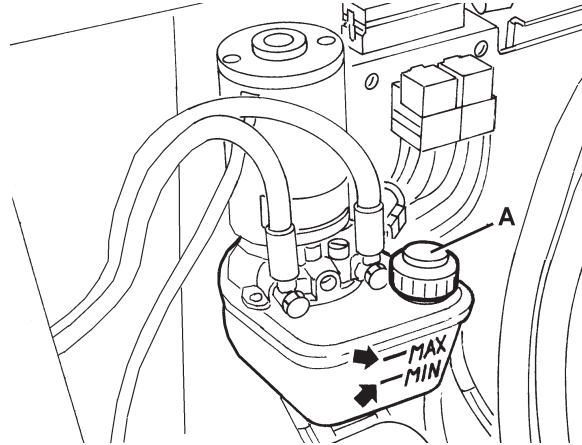

Figure 25
1. Engage the parking brake with the pedal (75) and the lever (68).
2. Turn the ignition key (67) to "0".
3. Open the hood (22) and fasten it with the support rod (36).
4. Check that the oil level in the tank (35) is between the minimum (MIN) and maximum (MAX) marks shown in Fig. 25.
5. If necessary, add oil through the plug (A, Fig. 25), using the oil specified in Technical Data paragraph.
6. Remove the support rod (36) and close the hood (22).